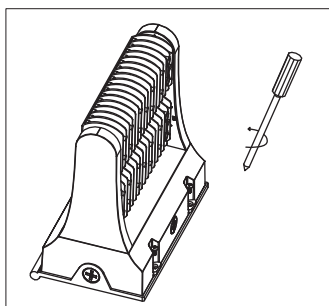
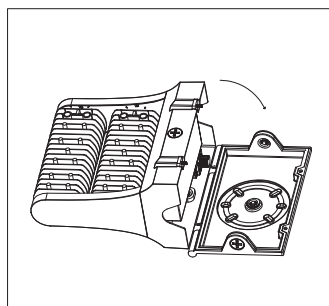

Figure 1
Figure 2
Step 1: Use a screwdriver to loosen the screws connecting the lamp base so as to remove the lamp base cover (Figure 1 & Figure 2)